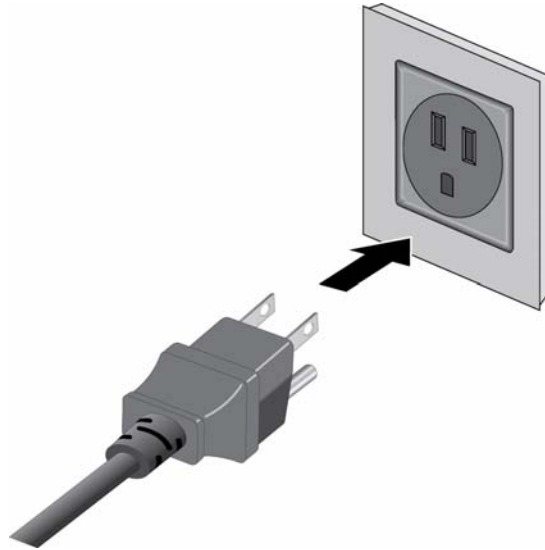

Figure 43. Connecting the Power Cord to an AC Power Source
4. Connect the power cord to an appropriate AC power source. Refer to Figure 43.